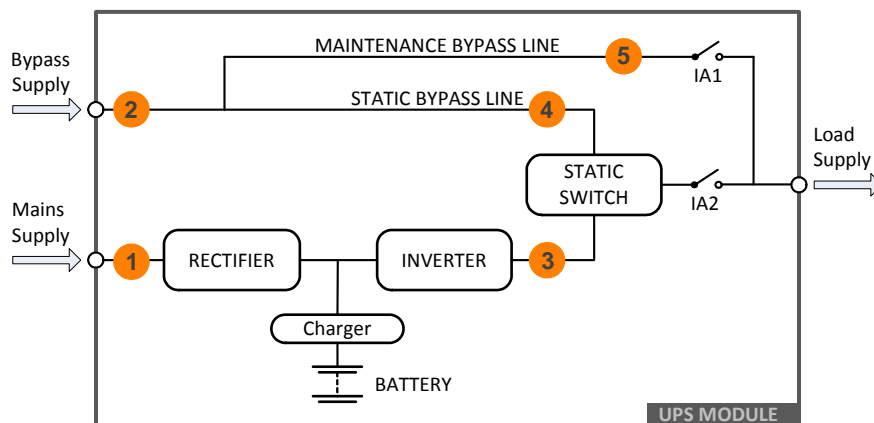

Figure 2.1 Kohler PW 6000 UPS block diagram
Figure 2.1 shows the power blocks contained within the Kohler PW 6000 UPS.
The Mains supply (1) is a three phase supply which is connected to the UPS rectifier. During normal operation this supply is rectified to provide a DC input to the inverter and also charges the battery. A separate mains supply (2) is shown connected to the static bypass in Figure 2.1; however in a standard UPS module the bypass supply terminals (2) are usually linked to the mains supply terminals (1) so the UPS effectively requires only a single mains supply connection. (See paragraph 3.6.2 for details concerning 'Single Feed' & 'Dual Feed' input supply configurations.) The bypass supply is shown connected to the static switch (4) and the maintenance bypass line (5).
Figure 2.1 shows that the UPS output (Load supply) can be provided through one of three power paths from within the UPS, depending on the UPS operating mode: